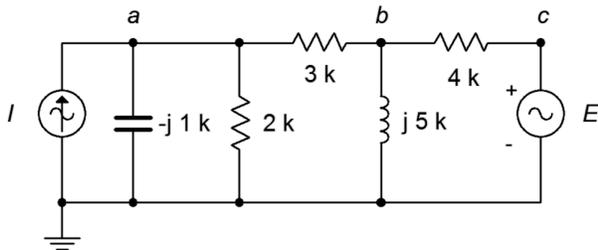

Figure 5.15
29. Use Superposition to determine  $v_{ab}$  in the circuit of Figure 5.15.  $I = 10E-3\angle 0^\circ$  and  $E = 12\angle 0^\circ$ .
30. Use Superposition to determine the capacitor current in the circuit of Figure 5.15.  $I = 5E-3\angle 0^\circ$  and  $E = 18\angle 120^\circ$ .